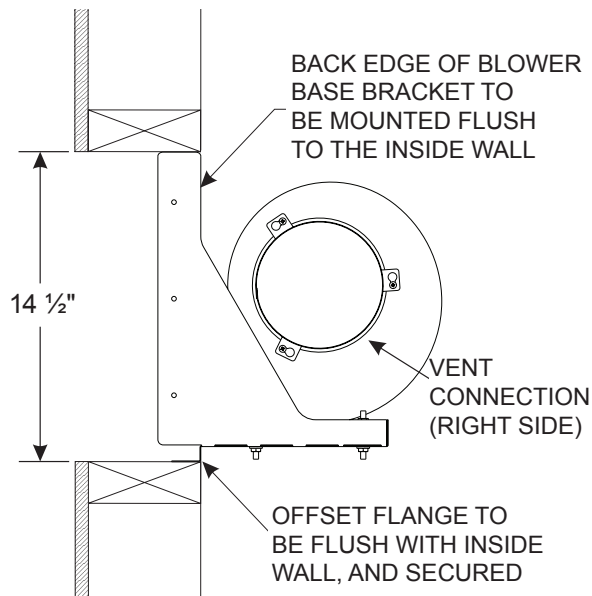

Figure 5a
- Once the framing is completed, install the Blower & Base assembly as shown in **Figures 5a - 5d**. The Blower & Base assembly can be installed in the wall in any of four positions which allows flexibility of the venting connection to the blower.